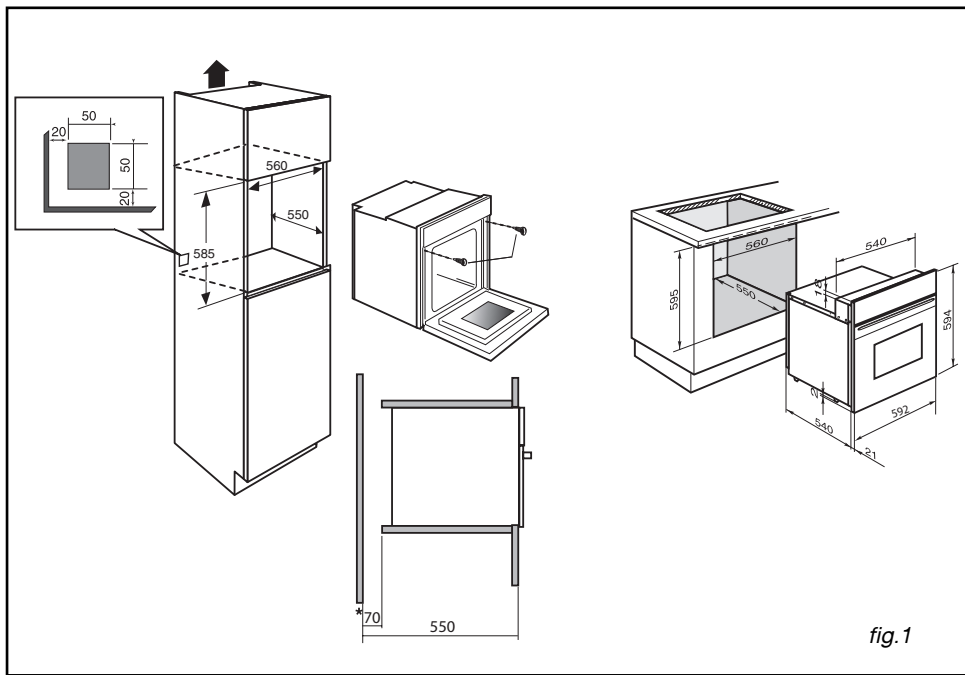

fig. 1
- For greater stability, attach the oven in the cabinet with two screws through the holes provided for this purpose on either side of the front inner panel (fig.1).